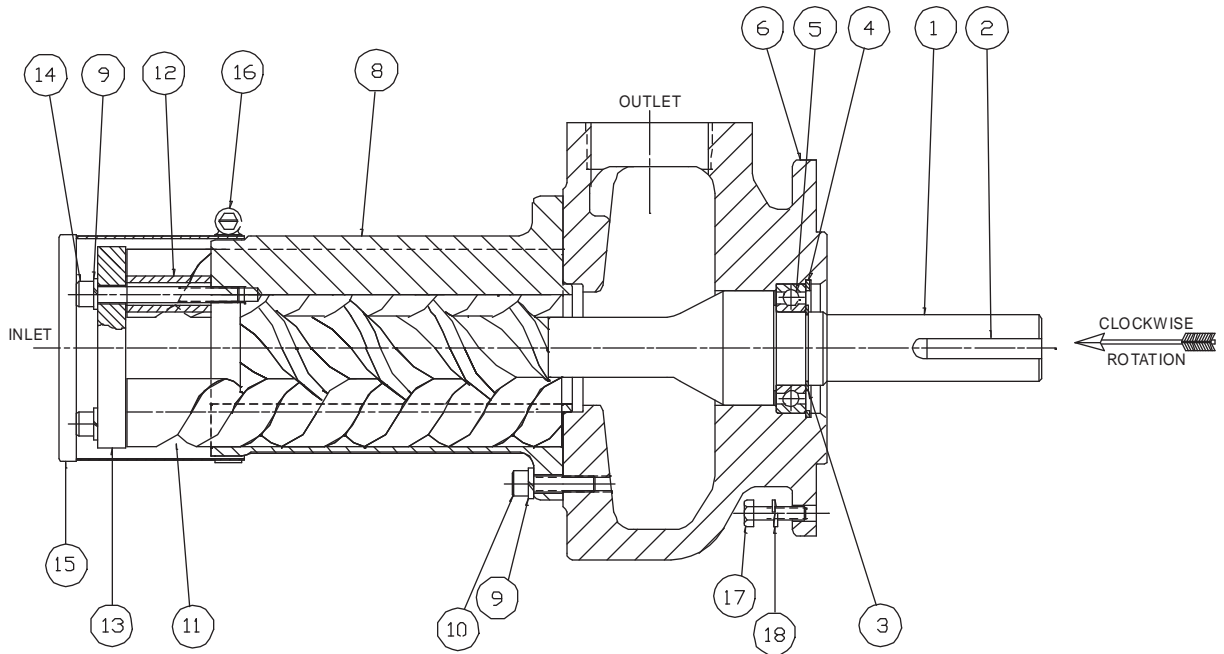

Figure 2. Assembly Drawing for 3SIC-187, -200 and 4SIC-187, -200 Series Pumps
- Part number identifiers (IDPs) contained within parenthesis such as (8) refer to the circled numbers shown on Assembly Drawings, Figures 2 and 3.
1. Using Figure 2, torque bolts (10) to 18 ± 2 lb. ft.